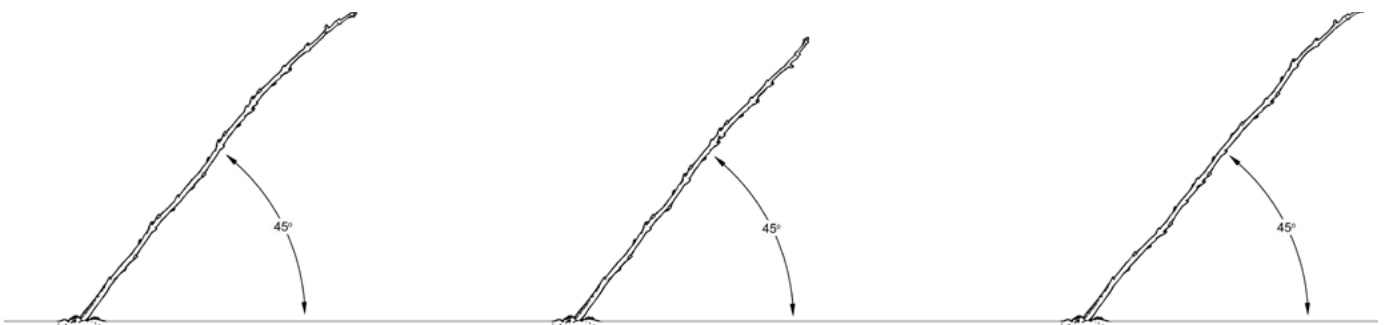

Figure 64
- Plant trees at a 45-degree angle pointing the terminal to the south (northern hemisphere) or to the north (southern hemisphere) (Figure 64). This reduces the potential for sunburn on the trunk during establishment. Important: do not plant the trees vertically and bend them to a 45-degree angle.